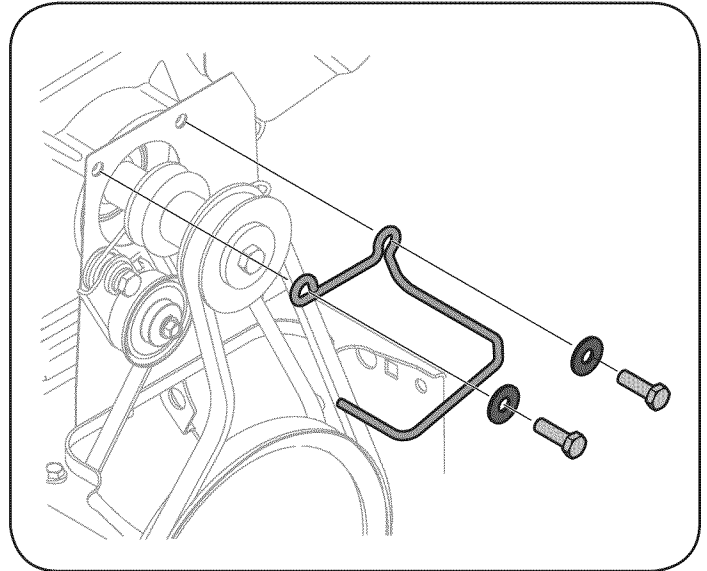

Figure 31
3. Loosen and remove the two bolts and flat washers securing the belt guide. See Figure 31. Remove belt guide.